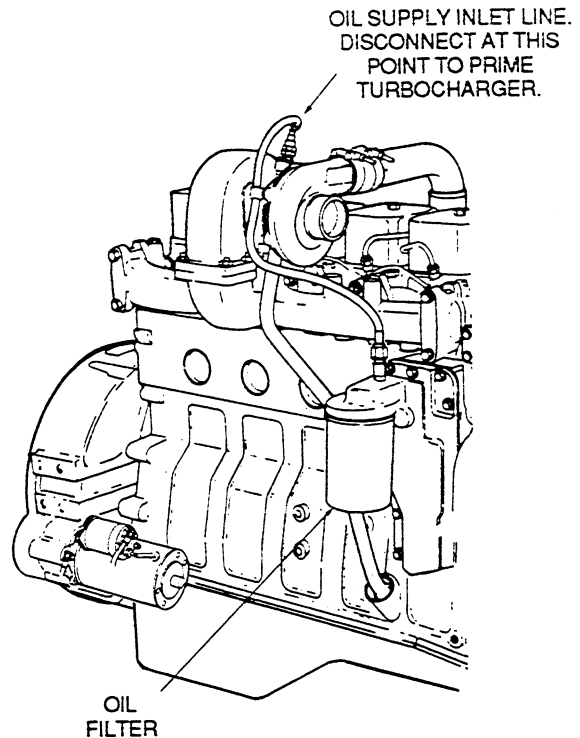

FIGURE 15. PRIMING TURBOCHARGER
1. Remove oil inlet line from turbocharger housing (Figure 15), fill bearing housing with clean engine lubricating oil; replace line, secure.
3. Remove plug from head of oil filter housing (Figure 15) and connect a hand or motor-driven priming pump from a source of clean lubricating oil to the plug hole in filter housing.